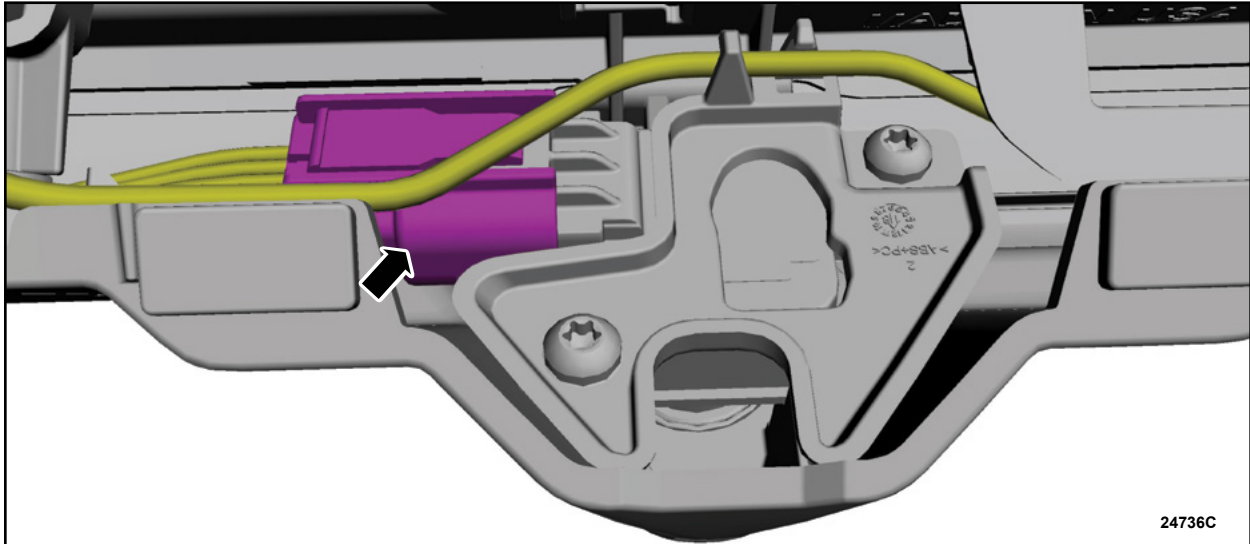

FIGURE 5
4. Disconnect the camera electrical connector and position the wiring harness aside. See Figure 5.